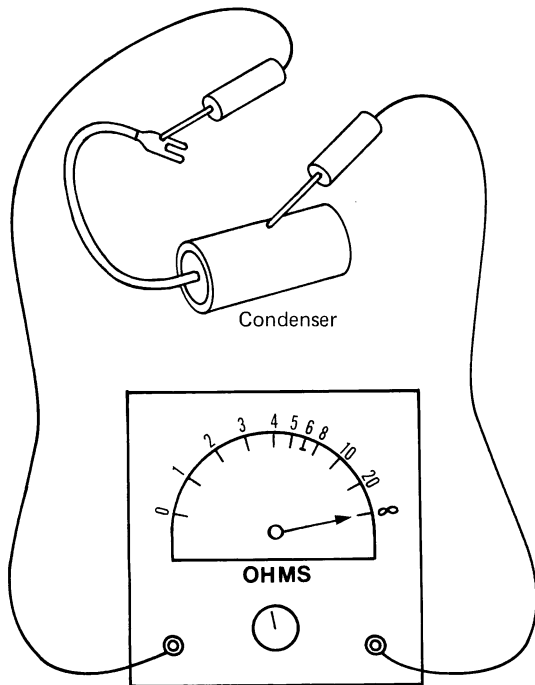

Fig. 21-25 Condenser-ohmmeter leakage test
**Condenser Testing.** Test ignition condensers for shorting, leakage, and capacitance. The test for shorting is made by setting your ohmmeter to zero with the probes connected, and then touching the probes to the pig tail and case of the condenser (Fig. 21-25). The resistance should be